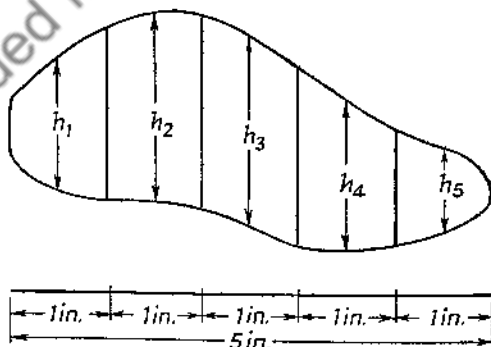

Fig. 62
##### MID-ORDINATE RULE (fig. 62)
*Find the weight of the irregular-shaped piece of sheet metal shown in fig. 62, if it is made of sheet weighing 4.5 lb/ft.2*